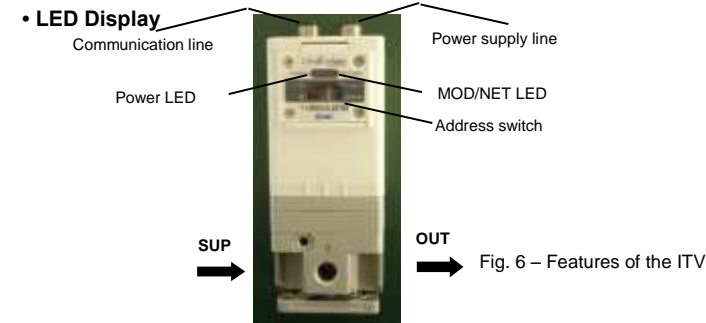

Fig. 6 - Features of the ITV.
- Setting the address switch requires the removal of 4 screws in the front panel of the unit (Fig 6). Take care as the panel hinges to a maximum of 90 degrees.